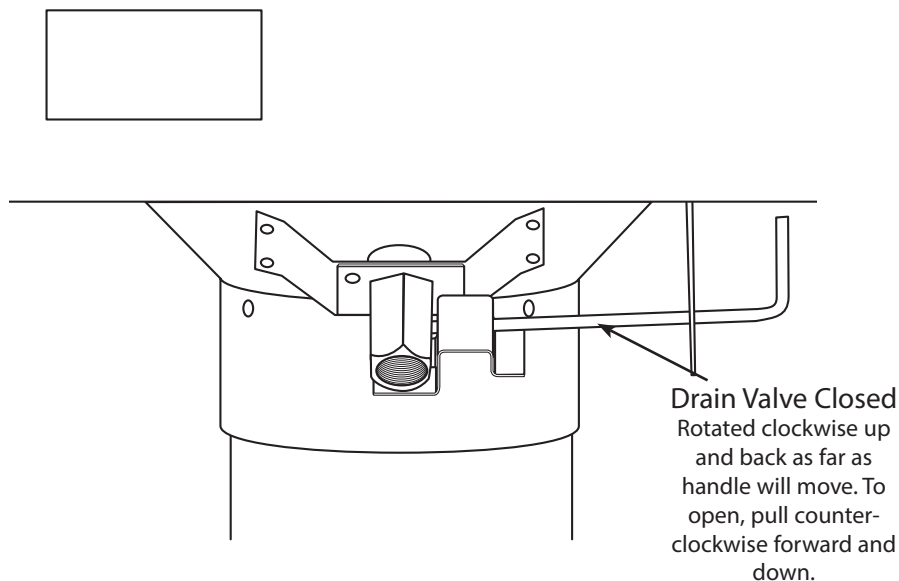

FIGURE 3 - Some features have been omitted to show greater detail.
4. Check Collector and Drain Valve - Make sure collector with gasket is seated and drain valve is closed (handle forward – see Figure 3). Always place lifting loop in front. This will allow the collector to be removed with ease.